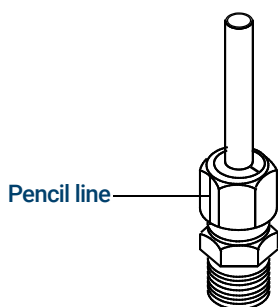

Figure 55. Mark the fitting
- 7 Mark the nut with a pencil line. See **Figure 55**.